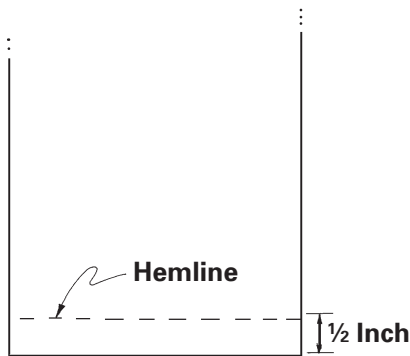

Fig. 24-11
- Trim the garment hem allowance to $\frac{1}{2}$ inch (1.3 cm). (Fig. 24-11)